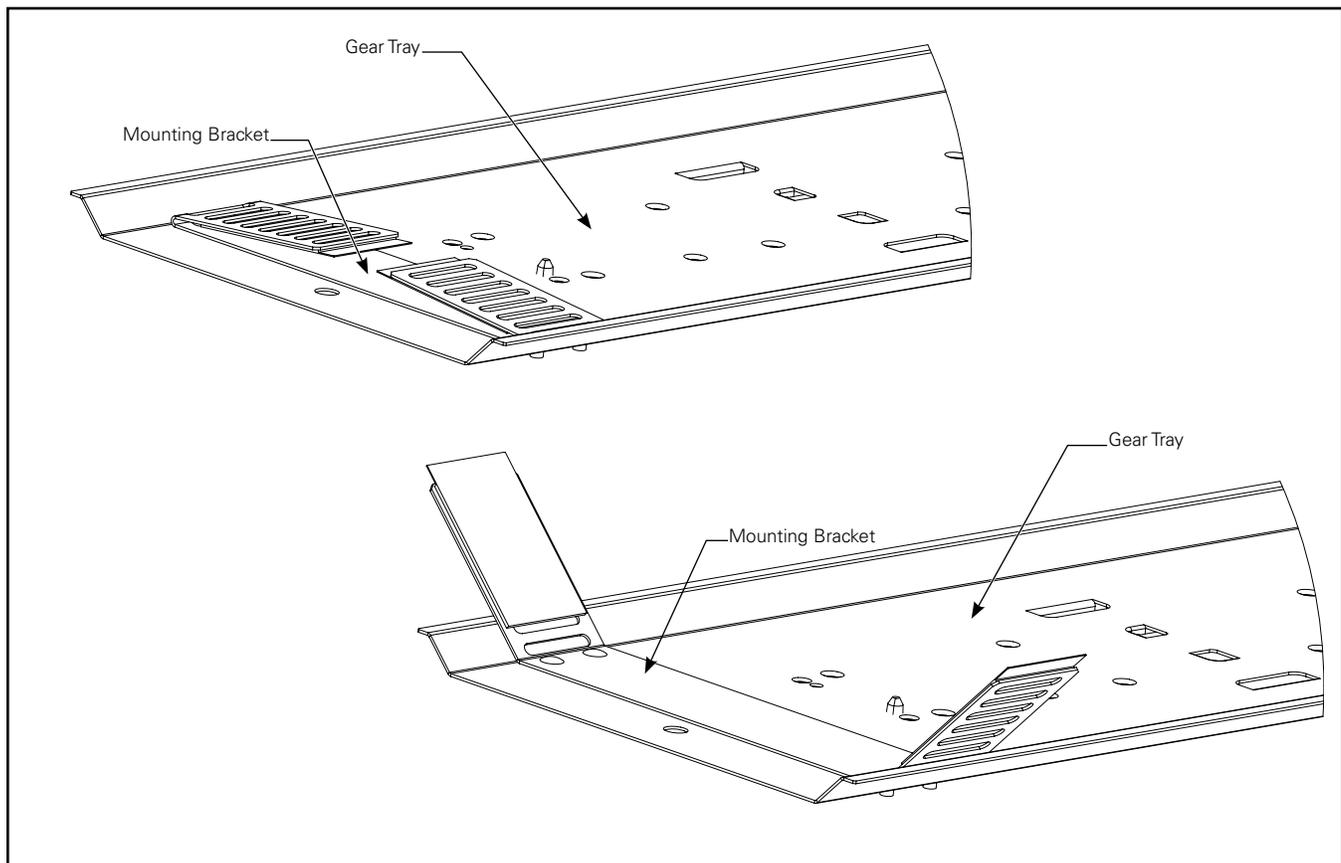

Figure 1.
1. The mounting brackets come in a folded position from the factory, bend the mounting brackets to roughly 75 degrees for installation. (Figure 1.)